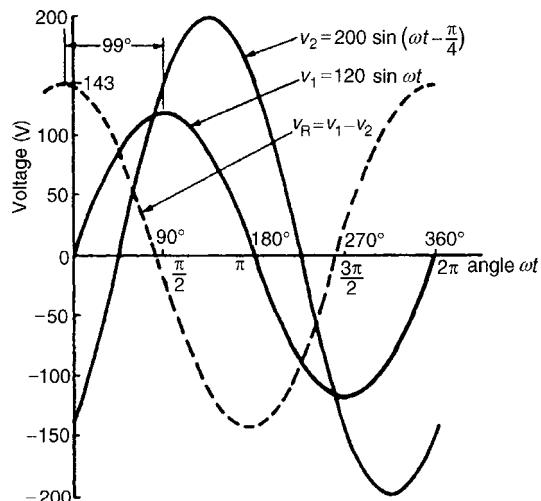

Figure 14.13
- (a) $v_1 = 120 \sin \omega t$ and $v_2 = 200 \sin(\omega t - \pi/4)$ are shown plotted in Fig. 14.13. Care must be taken when subtracting values of ordinates especially when at least one of the ordinates is negative. For example
The resultant waveform, $v_R = v_1 - v_2$, is shown by the broken line in Fig. 14.13. The maximum